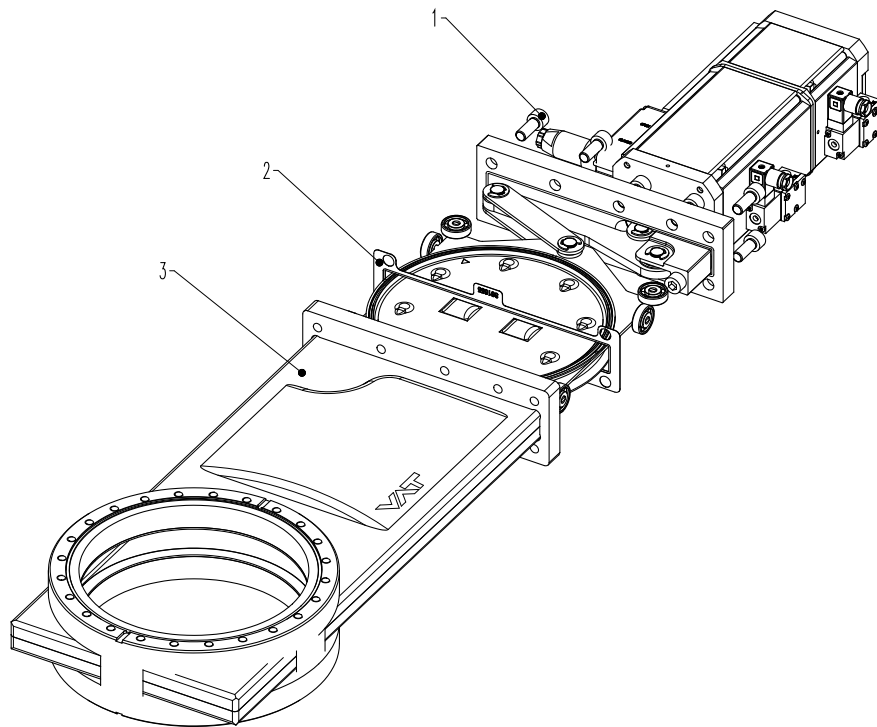

Figure 6-2
5. Remove screws (1) according to «Figure 6-2» on page 18.
6. Withdraw actuator / mechanism unit carefully from body without touching the body wall; see «Figure 6-2» on page 18.
19. Mount screws (1) according to «Figure 6-2» on page 18.